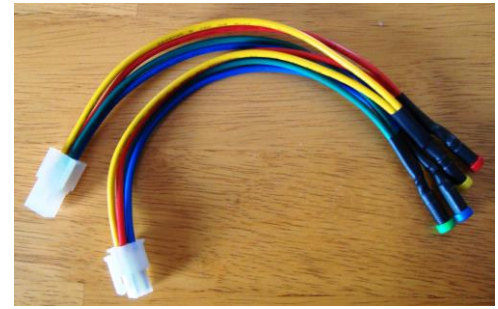

Figure 1
The GA2, **Figure 1**, allows for electrical troubleshooting of the Honeywell Gas SmartValve™ Series and upgrades and replaces Honeywell's 396085 GA2 Testing Harness. These instructions will reference the 81B Victor multimeter, **Figure 2**.
1. The GA2 Adapter, Figure 1.